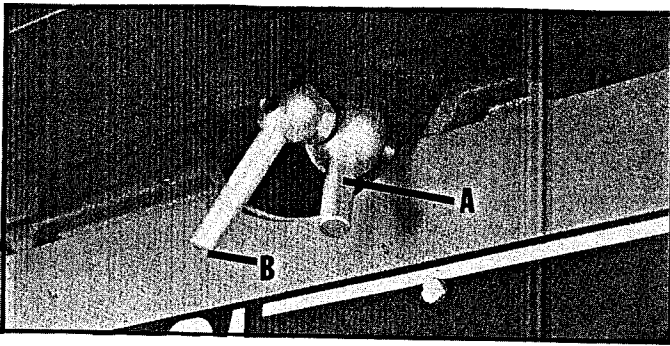
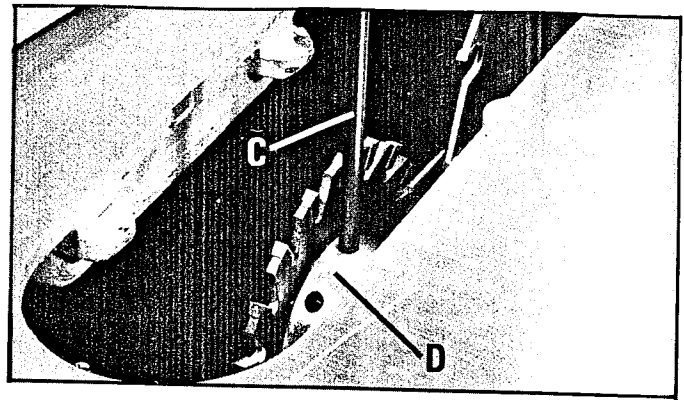

Fig. 47
Fig. 48
The scoring blade must always be in alignment with the saw blade. To adjust the scoring blade right or left, loosen clamp lever (A) Fig. 47. Turn lever (B) to the left to shift scoring blade right. Turn lever (B) to the right to shift scoring blade left. When scoring blade is aligned with saw blade, tighten clamp lever (A) Fig. 47.
The scoring blade can be raised or lowered by loosening clamp lever (A) Fig. 47, and inserting rod (C) in arbor eccentric (D) Fig. 48. Rotate arbor eccentric (D) Fig. 48, using rod (C), until the scoring blade is at the desired height. Tighten clamp lever (A) Fig. 47.